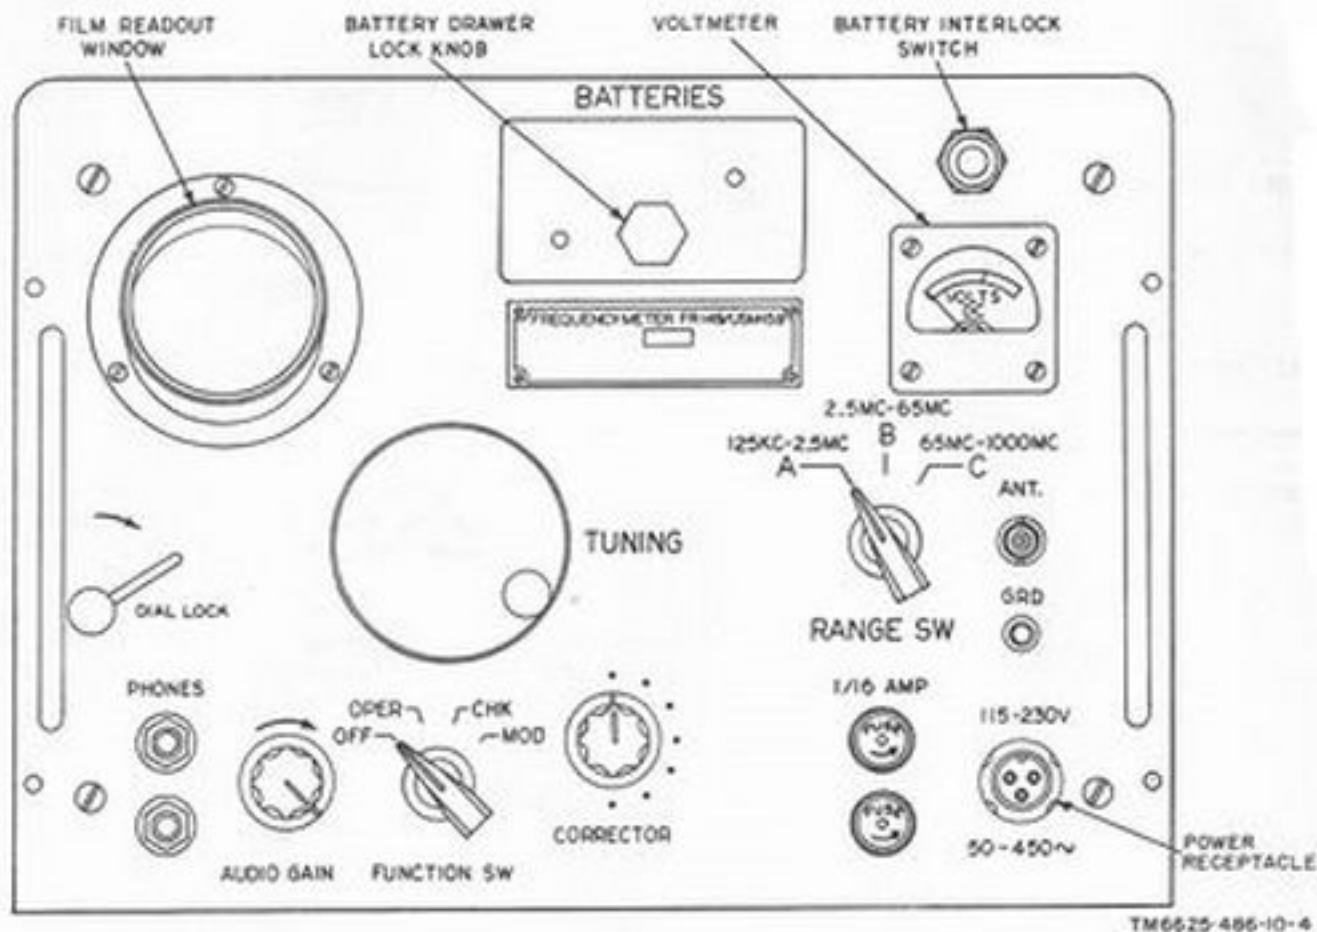

Figure 4. Frequency Meter AN/USM-159, controls and indicators.
13. Frequency Meter AN/USM-159 Operating Controls and Indicators (fig. 4)
14. Preliminary Starting Procedure (Fig. 4)